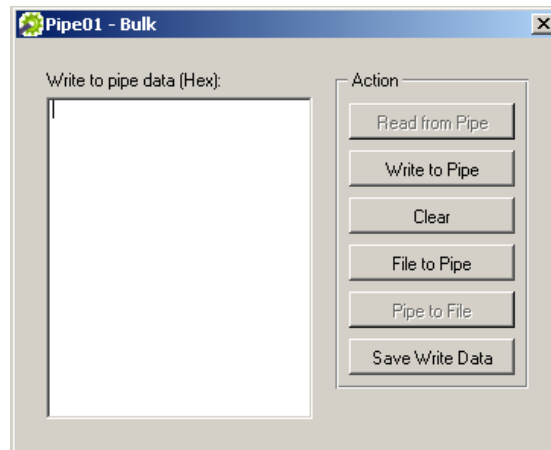

Figure 5.8: Write to Pipe
- v. For an output pipe (moves data from host to device), click **Write to Pipe**. A new dialogue box will appear (see Figure 5.8), asking you to enter the data to write. The DriverWizard log will contain the result of the operation.